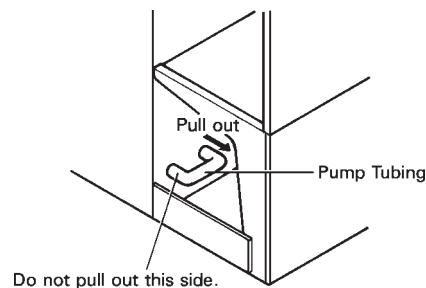

Fig. 11
- 7) Remove one end of the Pump Tubing, and drain the Water Tank. See Fig. 11.
- 5) Remove one end of the Pump Tubing. Drain the Water Tank. Replace the Pump Tubing in its correct position. See Fig. 11.